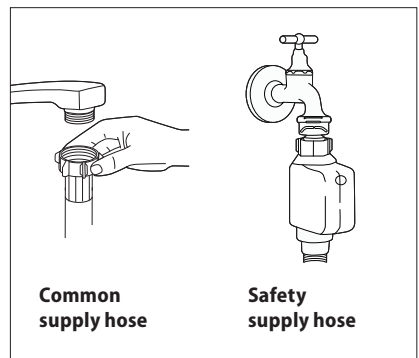

Fig. 17
- Connect the inlet hose to the water supply according to Fig. 17.
- Connect the inlet hose to the tap with 3/4" thread (Fig. 17). Make sure that the inlet hose is not bent, crushed or entangled.